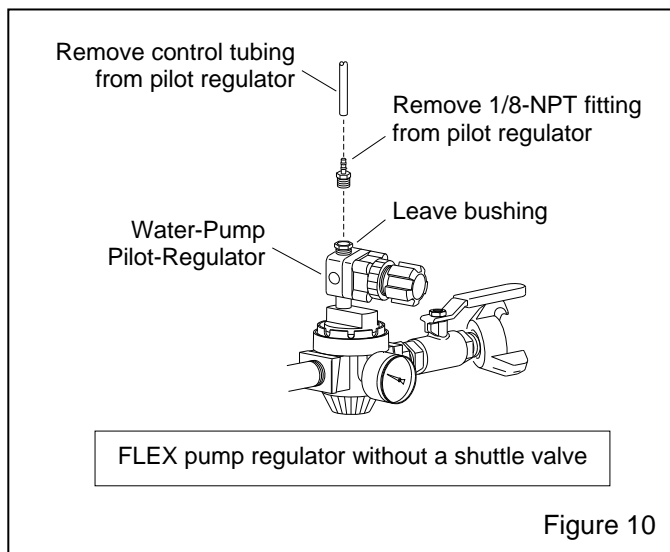

Figure 10
2.4.4.3 Temporarily remove the existing urethane control tubing and 1/8-NPT barb fitting from the bushing on the water-pump pilot-regulator as shown in Figure 10.
Note: The Nozzle injector may also be installed on the blast hose of another separate blast machine, refer to the lower illustration in Figure 9, Figures 10 and 11, and Sections 2.4 and 4.10.